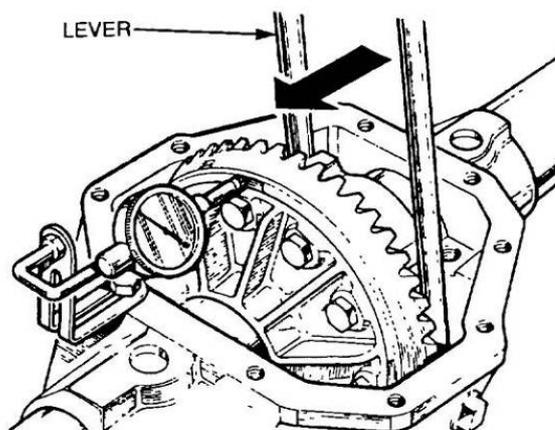

Figure 247 Checking the Differential Backlash
- n. Install the differential in the axle casing and using two levers, move the assembly away from the pinion gear until the opposite bearing cup is seated against the axle casing (Figure 247). Do not tilt the differential assembly. Note the total reading on the dial indicator.